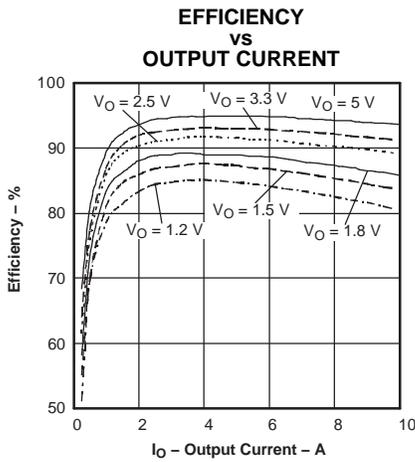
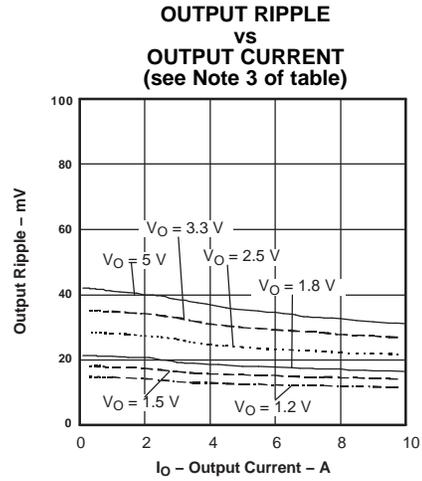
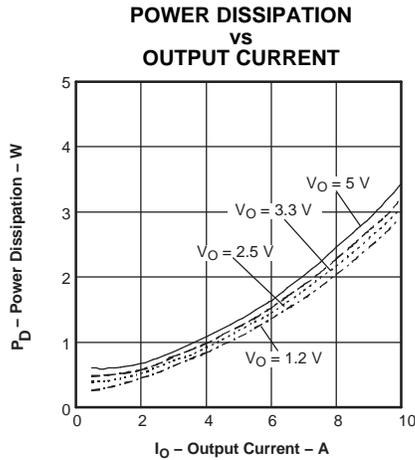

Figure 1.
Figure 2.
Figure 3.
- (1) Characteristic data has been developed from actual products tested at 25C. This data is considered typical data for the Converter. Applies to Figure 1, Figure 2, and Figure 3.